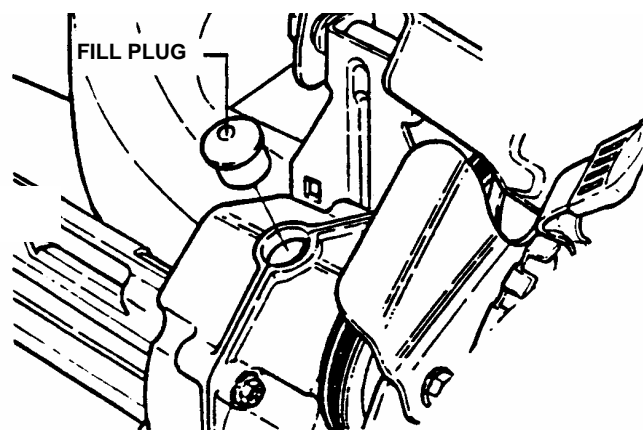

FIGURE 3.3
2. If liquid grease IS NOT visible on the input gear (the small gear below the plug hole), add an amount, to cover gear, of Snapper "00" grease. See Figure 3.3.